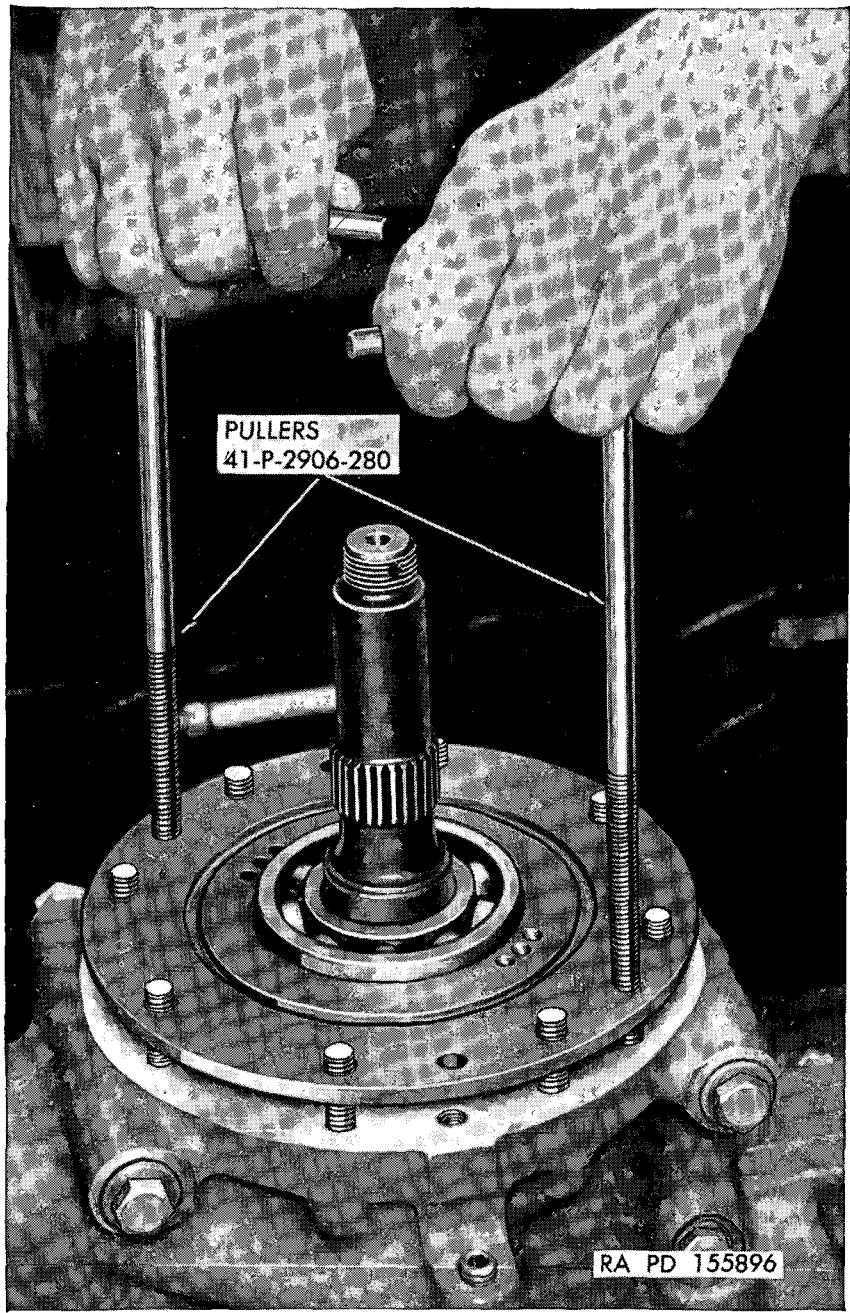

Figure 26. Removing fan drive bearing housing.
*c.* Lift the fan drive vertical shaft bearing housing (F) and the fan drive vertical shaft (C, fig. 82) from the crankcase. Use puller 41-P-2906-280 (fig. 26). Discard "O" ring gaskets.